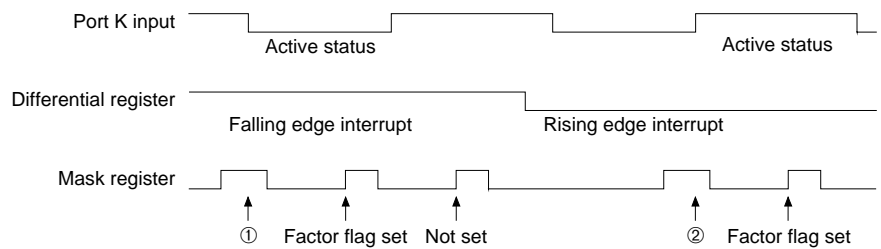

Fig. 5.2.1
When an interrupt is triggered at the falling edge of an input terminal, a factor flag is set with the timing of ① shown in Figure 5.2.1. However, when clearing the content of the mask register with the input terminal kept in the Low status and then setting it, the factor flag of the input interrupt is again set at the timing that has been set.
When an interrupt is triggered at the rising edge of the input terminal, a factor flag will be set at the timing of ② shown in Figure 5.2.1. In this case, when the mask registers cleared, then set, you should set the mask register, when the input terminal is in the Low status. In addition, when the mask register = "1" and the content of the differential register is rewritten in the input terminal active status, an input interrupt factor flag may be set. Thus, you should rewrite the content of the differential register in the mask register = "0" status.
**I/O port** (1) When the I/O port is being read out, the in-built pull-down resistance of the I/O port goes ON. Consequently, if data is read out while the CPU is running in the OSC3 oscillation circuit, data must be read out continuously for about 500  $\mu$ s.
(2) When the I/O port is set to the output mode and the data register has been read, the terminal data instead of the register data can be read out. Because of this, if a low-impedance load is connected and read-out performed, the value of the register and the read-out result may differ.
**LCD driver** (1) When 40H–6FH is selected for the segment data memory, the memory data and the display will not match until the area is initialized (through, for instance, memory clear processing by the CPU). Initialize the segment data memory by executing initial processing.